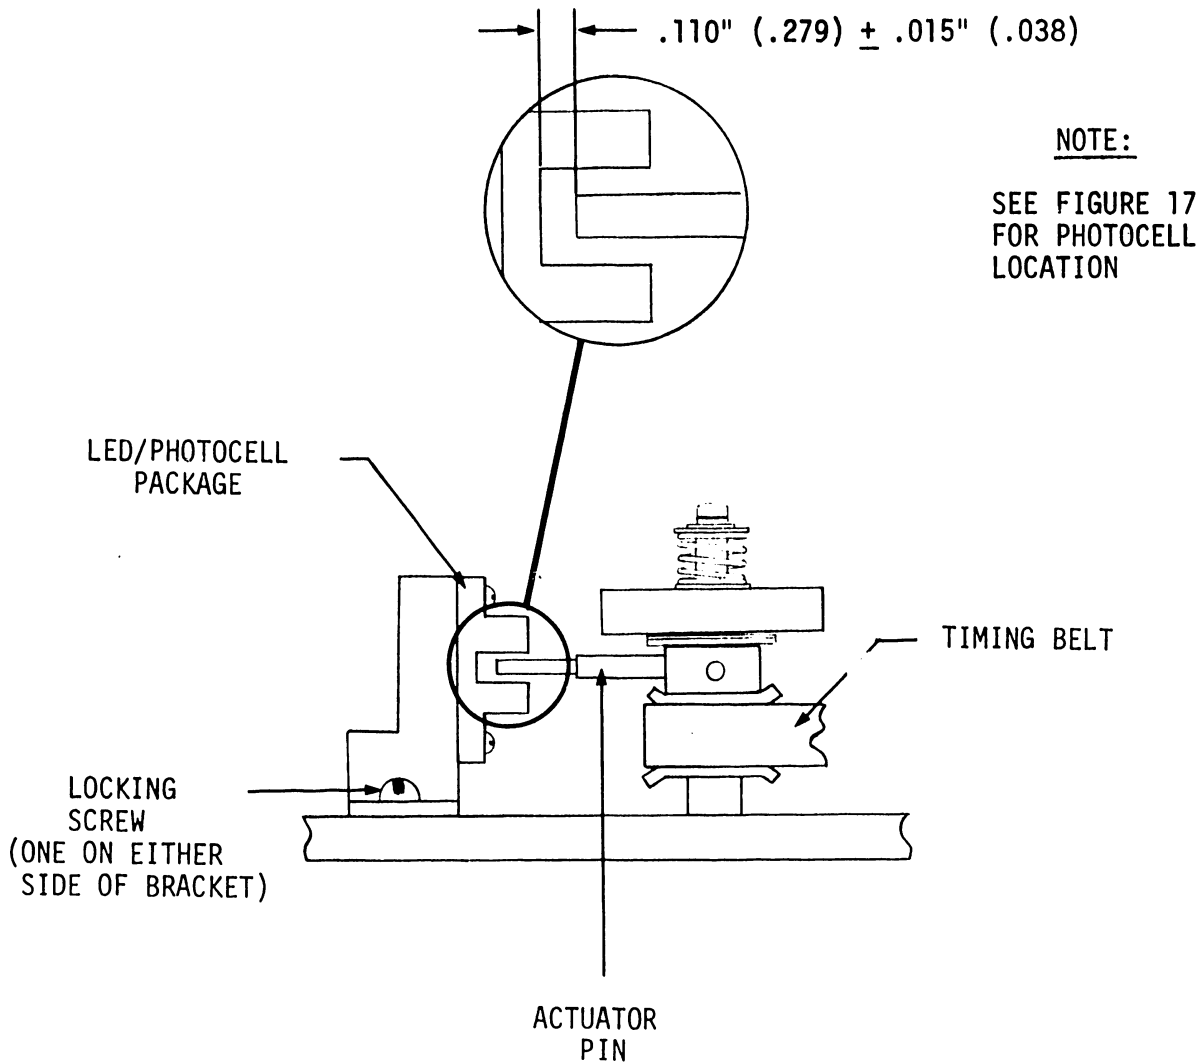

FIGURE 16
- 1) With the photo actuator pin engaged within the LED/photo cell package there should be a clearance of $.110'' (.279) \pm .015'' (.038)$ from the tip of the actuator pin to the inside edge of the photocell package (See Figure 16).